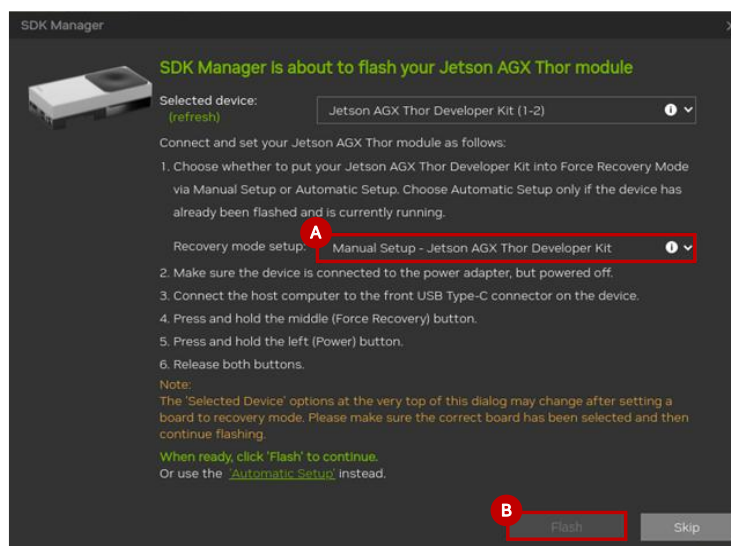

Figure 6.20. Recovery Mode Selection
11. After the installation completes, the SDK Manager displays a dialog box to flash the target device. Select **Manual Setup – Jetson AGX Thor Developer Kit** (see letter A) in the **Recovery mode setup** shown in Figure 6.20 to begin flashing the target device. Refer to the Recovery mode step for details.